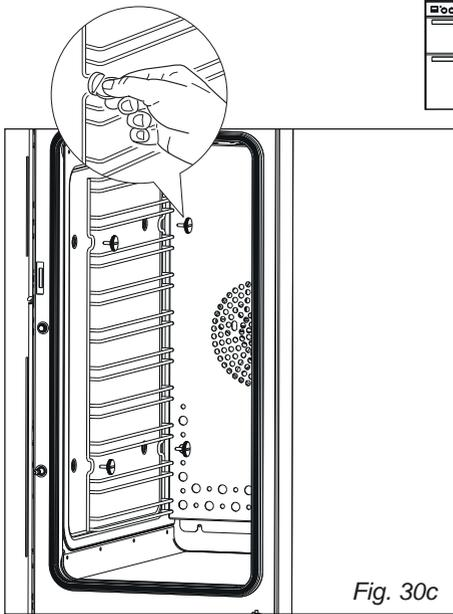

Fig. 30c
- Assemble the wire racks to the oven walls using the screws (2 screws figs. 30a, 30b; 4 screws fig. 30c).